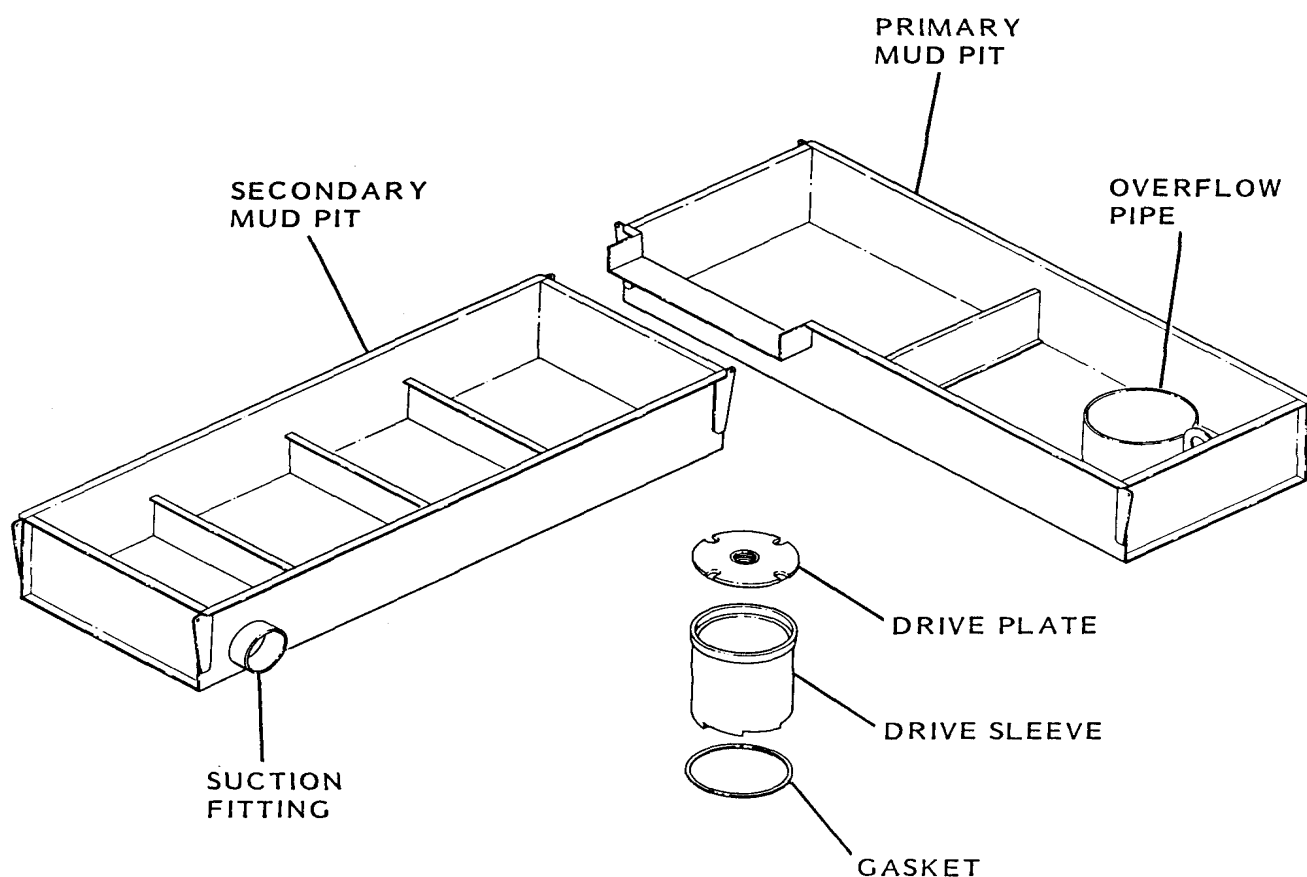

Figure 2-26. Mud pit system.
- a. Mud pits. Remove the primary and secondary mud pits from the support vehicle. Temporarily, set the primary pit under the rotary table area and set the secondary pit at a right angle to the primary. See Figure 2-26. Connect the mud pump suction hose to the suction fitting on the secondary pit. When required, prepare mud storage and settling pits (refer to FM 5-166).